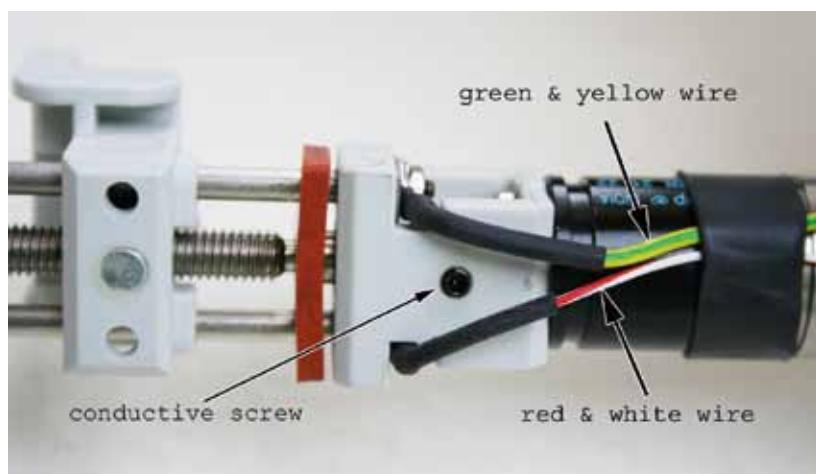

Figure 19. Wiring placements
- c Insert a washer on the leading bar on the other side of the block, then place the red-and-white wire loop on the washer and secure by bolting the nut. Secure the screws using a thread-locking glue such as OmniFIT M50 (Figure 19).